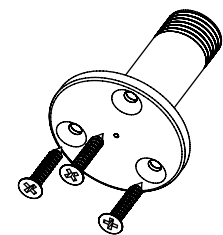

Fig 3. Az encoder pivot bolt as seen from bottom side of ground board.
3) Flip mount over and feed Az encoder pivot bolt through base of ground board as shown in Fig 3. Fasten bolt in place with 3 x supplied self-tapping wood screws.